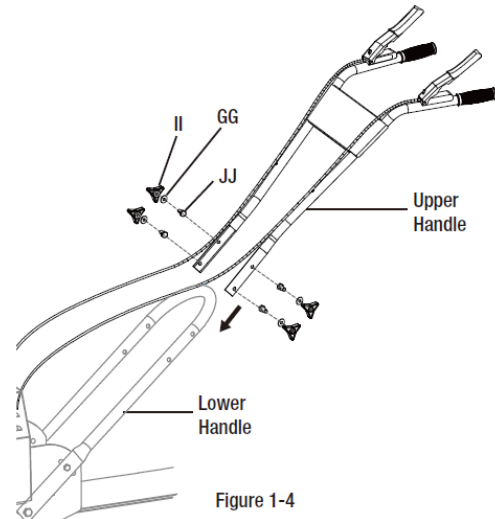

Figure 1-4
Align the upper handle pre-drilled holes to the lower handle pre-drilled holes. Insert M8x50 bolts (JJ) through the inside of the handle. Insert washers (GG) and hand tighten with star knob (II). See Figure 1-4.